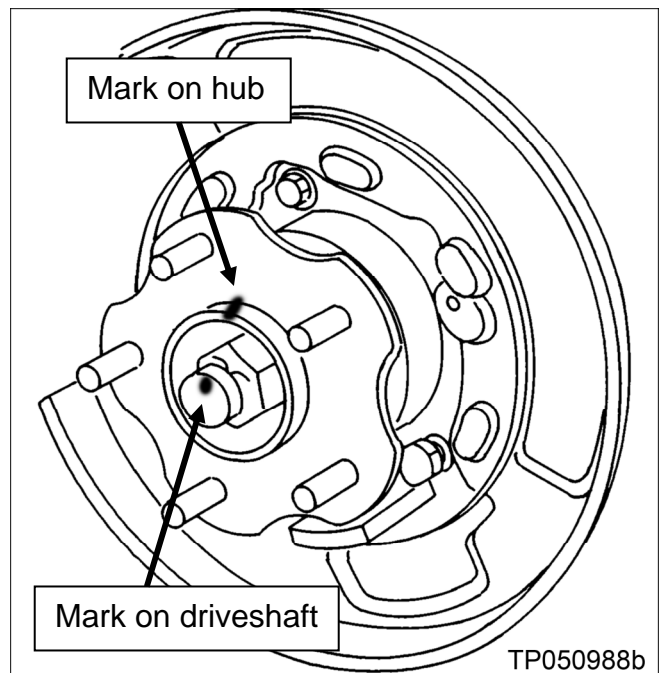

Figure 1
- **IMPORTANT:** Make sure to mark the driveshaft and hub as shown in Figure 1 before removing the driveshaft.
Put a mark on the end of the driveshaft and a matching mark on the hub as shown in Figure 1.